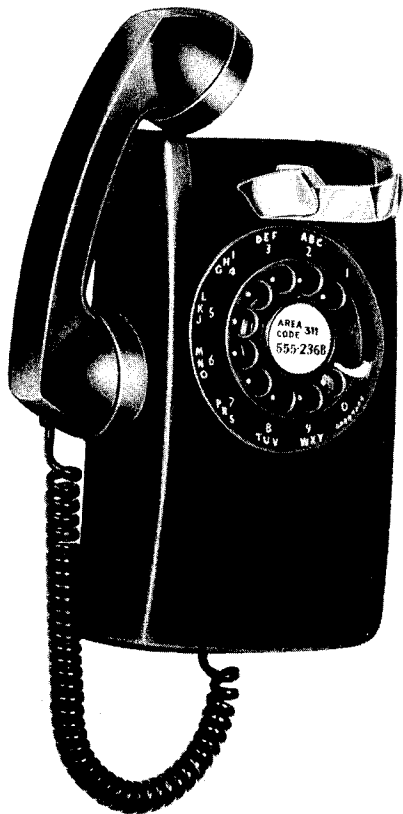
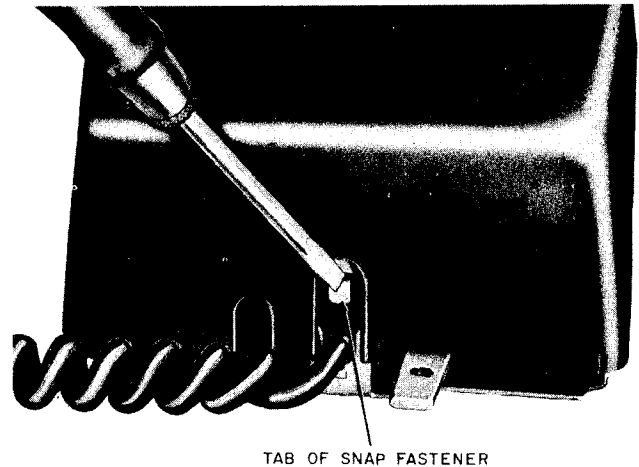
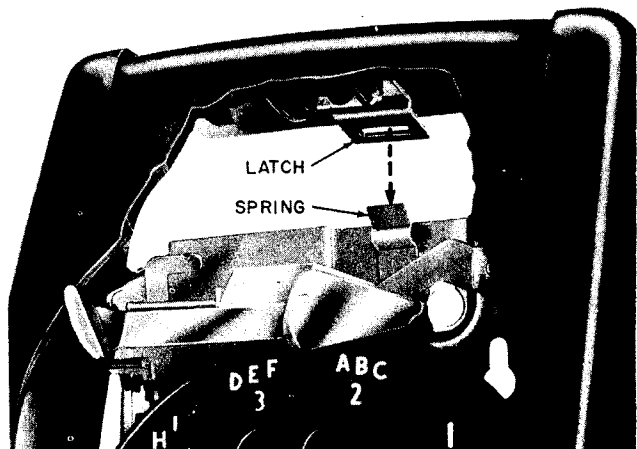

Fig. 9 — 554- or 556-Type Telephone Set, Handset Rest Position
Fig. 10 — Wall Telephone Set Housing Removal
Fig. 12 — Replacing Wall Telephone Set Housing
- 554- and 556-type sets — designed as handset hanger (Fig. 9).
(1) Removal
- Push inward on tab of snap fastener (Fig. 10) located in handset cord slot.
- Lift lower part of housing outward and upward, releasing snap fastener, and disengaging latch opening assembly (Fig. 10 and 11).
(2) Replacement
- Slip housing over handset hook and dial and engage latch spring assembly (Fig. 12).